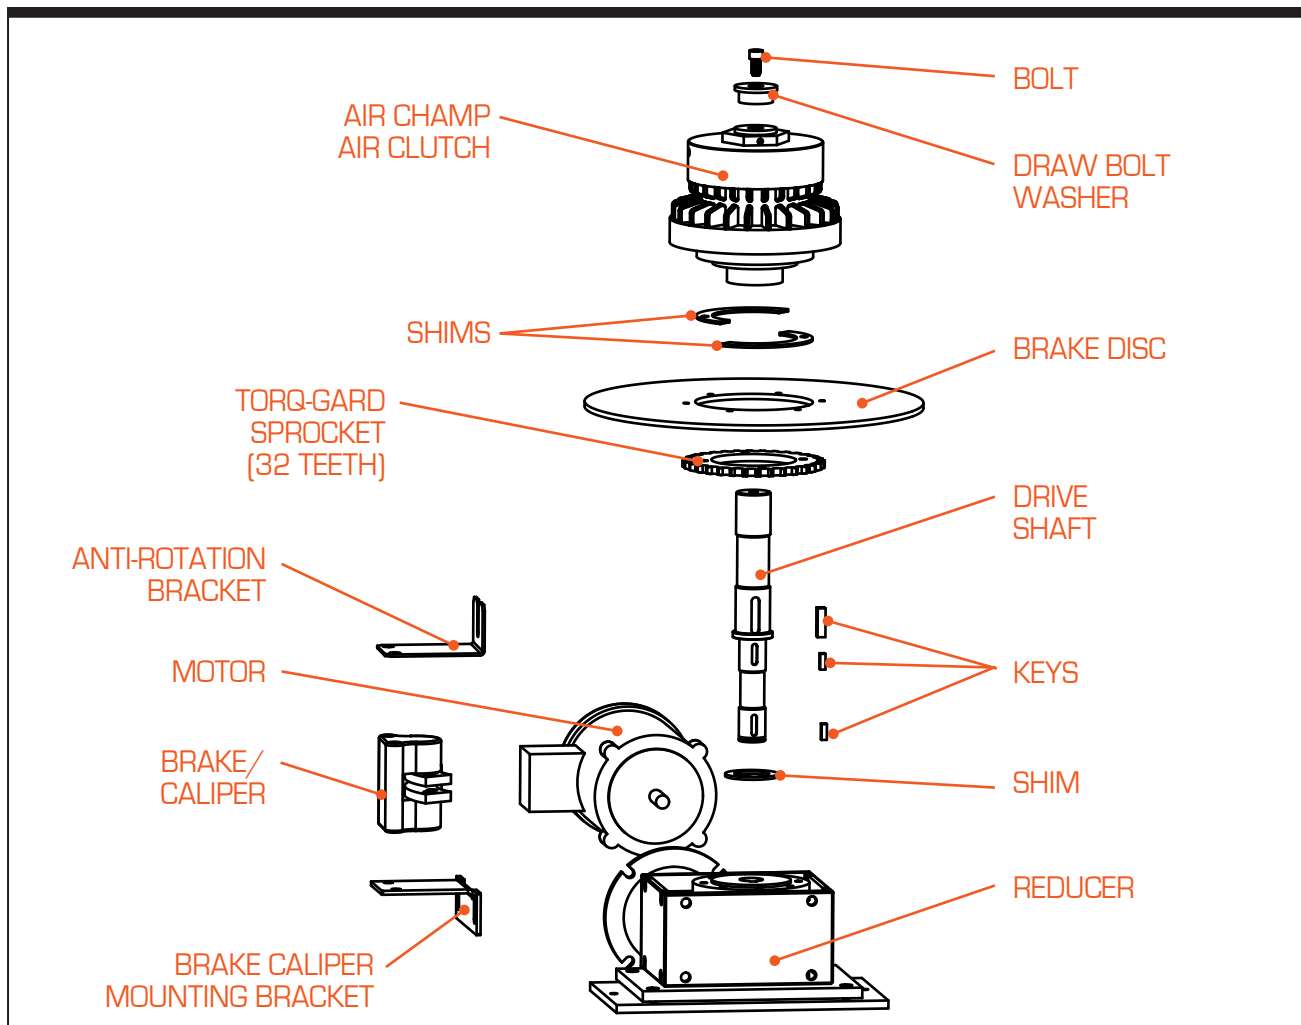

Figure 5-2. FS-60 Air Clutch and Drive Assembly
Step 1—Gain Access. Disconnect power and air. Remove the frame/safety guard giving best access to the motor and gear reducer. Loosen mounting bolts and slide air assembly bracket off (see Figure 5-2). Lock out and tag out the system.
The output shaft on the metric speed reducer is removable and is available as a separate kit. If replacement is required, clean both contact surfaces before assembly and apply any appropriate anti-seize compound to avoid oxidation (rust) and possible seizing of parts, refer to manufacturers technical information sheets that correspond with the output shaft. Slide the air clutch assembly down onto the reducer output shaft (see Figure 5-2) until it bottoms out against the shoulder. Tighten setscrew. The speed reducer used in the metric FS-60-RD feeder is lubricated for life with synthetic lubricant and requires no filling before use.
Step 8—Reinstall Clutch Assembly. Slide the air clutch assembly (with brake disc and drive sprocket) over the reducer output shaft, making sure the shaft keys are in place (see Figure 5-2).
Step 3—Begin Air Clutch Replacement. Observe the order of components before replacing the unit (see Figure 5-2 on the previous page). Disconnect air supply, anti-rotation bracket, shaft retaining bolt and setscrew.